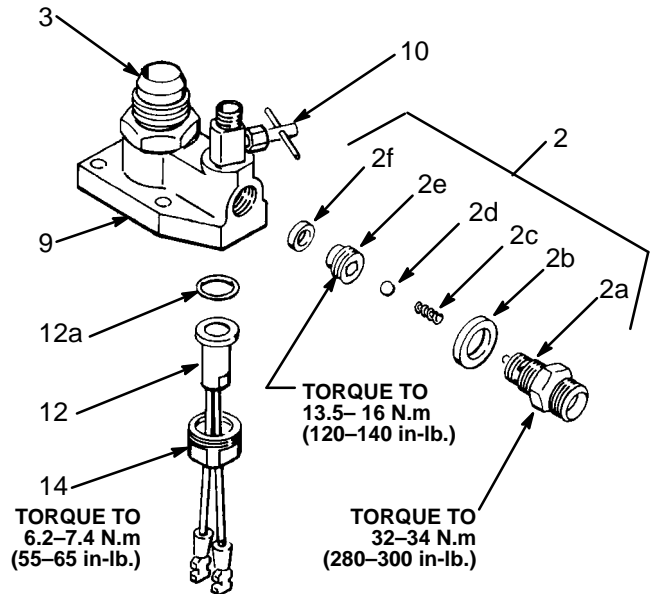

Fig 12
3. Unscrew the retainer (14) and remove the pressure switch (12) and o-ring (12a). See Fig 12.
4. Grease and install a new o-ring (12a) in the pump housing (9). See Fig 12.
5. Slide the retainer (14) over the pressure switch and screw the retainer into the pump housing. Torque the retainer to 6.2–7.4 N.m (55–65 in-lb). See Fig 12.
Outlet Valve (See Fig 12)